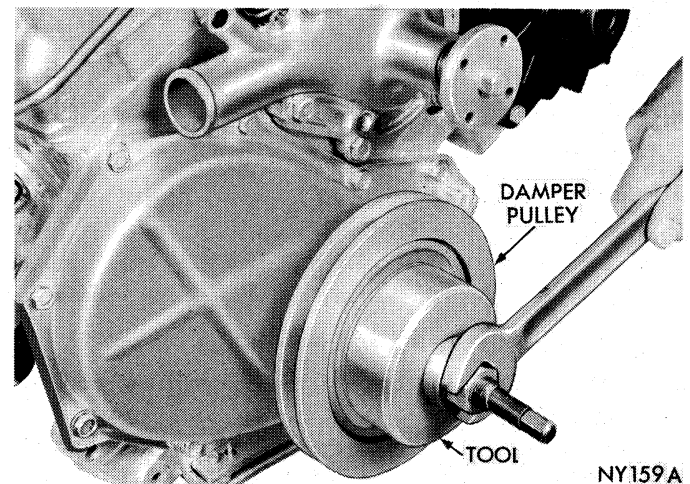

Fig. 20—Installing Vibration Damper with Tool C-3732A
(1) Be sure mating surfaces of chain case cover and cylinder block are clean and free from burrs.
(2) Add 1/8" dia. bead of sealer 4026070 or equivalent at junction of rubber pan seals and cork oil pan gaskets.
(3) Using a new gasket, slide chain case cover over locating dowels and tighten bolts to 200 inch-pounds. Be sure all oil pan gaskets are in place and tighten oil pan bolts to 200 inch-pounds.
(4) Place damper pulley assembly hub key in the slot in crankshaft, lubricate seal lip with Lubriplate and slide hub on the crankshaft.
(5) Place installing tool, part of puller set Tool C-3732A in position and press damper pulley assembly on the crankshaft (Fig. 20).